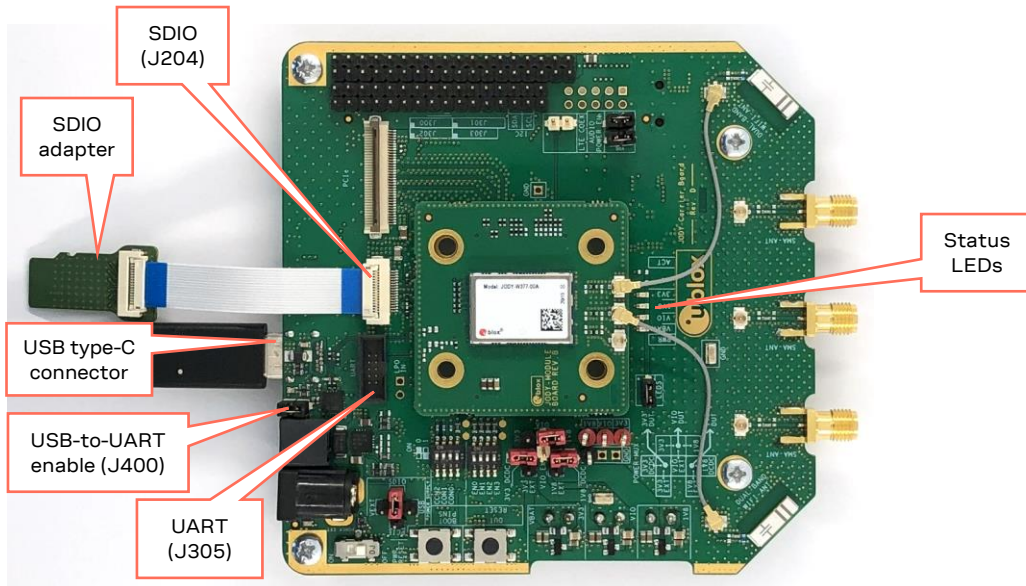

Figure 3: SDIO and USB connectors
- For SDIO connection, connect the supplied micro SDIO adapter card with the flat cable to the SDIO connector (J204) on the EVB, as shown in Figure 3. Insert the adapter card into an SDIO connector of the host system. The SDIO interface can be used for Wi-Fi communication with the JODY-W3 series module.